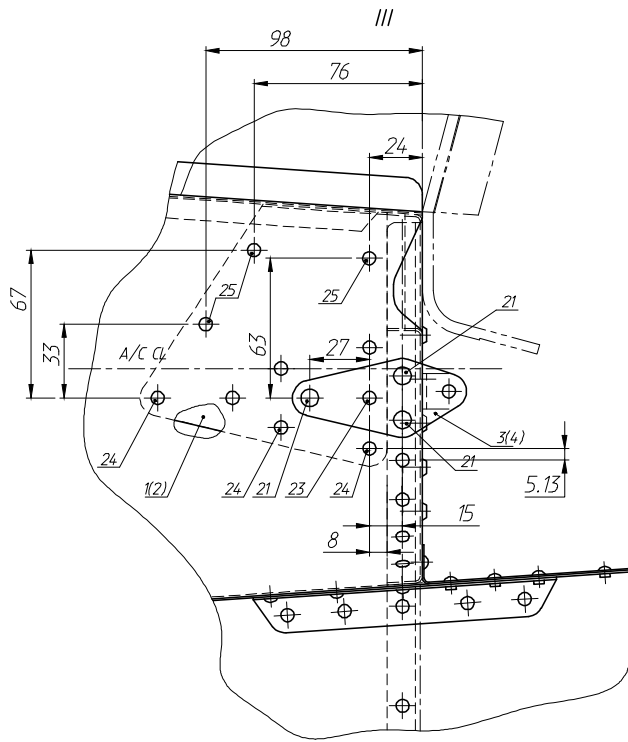

Fig. 11.
- 1.1. Mark and drill $\varnothing 3$ mm hole for the rivet No. 23 in the stabilizer attachment plate No.3(4) (see fig. 11).
- 2.2. Remove the stabilizer attachment plate (see fig. 11 No.3(4)) by drilling out the rivets No.21 – 6 pcs. with $\varnothing 4$ mm drill bit.
- 3.7. Mark and drill the $\varnothing 3.1$ mm holes for the rivets No.25 (see fig. 11). Insert Clico fasteners.
- 3.11. Fix with Clico fasteners the doubler No.1(2) inside the tail boom and stabilizer attachment plate No.3(4) (see fig. 11), set percussion rivets No.21 – 6 pcs., No.23 – 2 pcs., No.24 – 12 pcs., No.25 – 6 pcs.